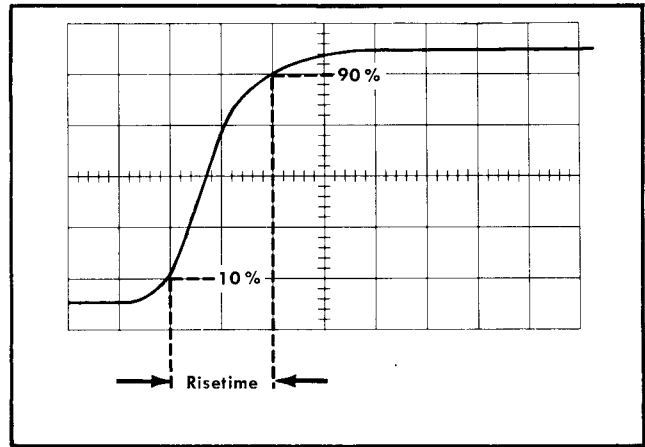

Fig. 2-5. Risetime measurement on a typical waveform.
4. Measure the time duration between these points (see Fig. 2-5). This is the combined risetime of the Type 106 and the oscilloscope (T_{re}).